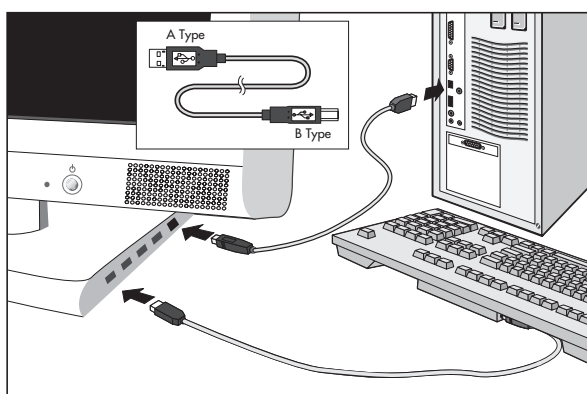

Figure F.1/G.1
6. Using the USB cable, connect the B type connector to the USB upstream port on the right side of the monitor and A type connector to the downstream port on the computer (**Figure F.1**). If you are using the cord from the USB device, use one of the downstream port on the side of the monitor (**Figure G.1**).